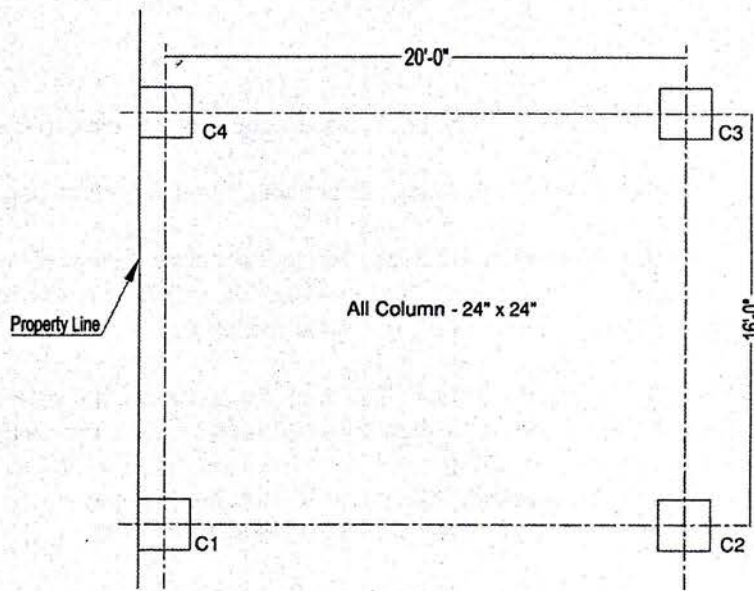

Figure 5
7. (a) Use USD to design a square footing for a 30" x 30" column with a working dead load (DL) = 800 kip and live load (LL) = 500 kip. Allowable bearing capacity of soil = 3.5 ksf. Show reinforcements in plan and sections with neat sketches. Given: $f'_c = 3$ ksi and $f_y = 60$ ksi. 10
- (b) The part plan of a structure as shown in Figure 5 consists of columns C_1 , C_2 , C_3 and C_4 carrying axial loads of 500 kip, 600 kip, 700 kip and 800 kip respectively. All the columns are 24" x 24" in size. If the allowable soil bearing capacity is 4 ksf, calculate the area of a combined footing for the columns and make a layout plan of the footing showing all the columns and all dimensions. 6